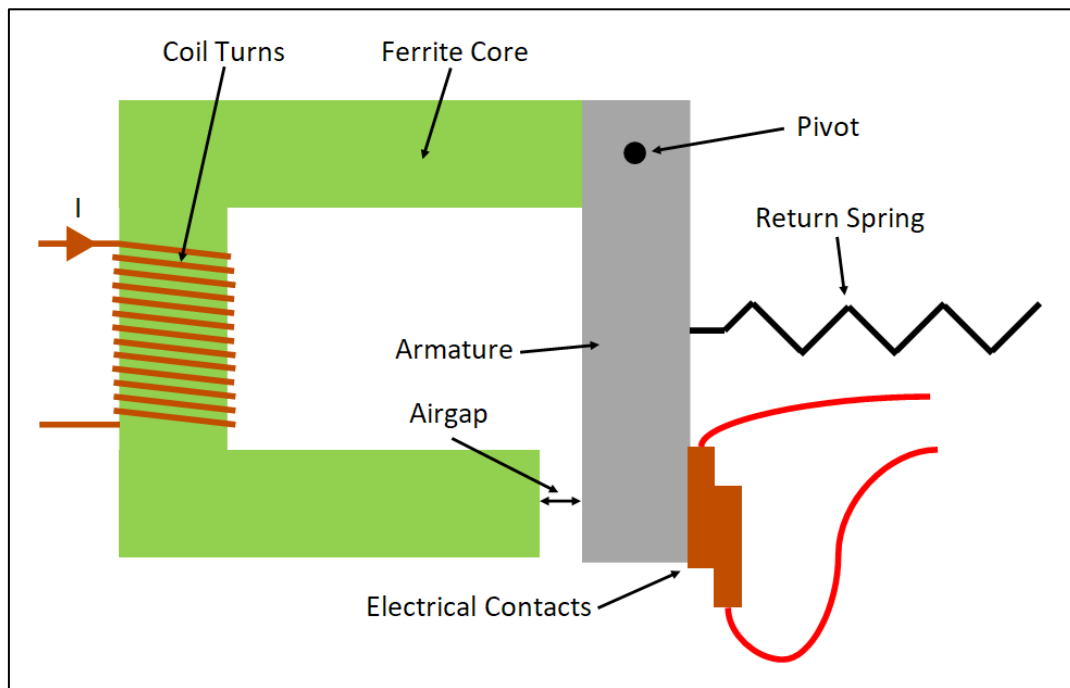

Figure 3.1: Simple Electromagnetic Relay Structure
**Figure 3.1** shows a typical simple Electromagnetic Relay structure. When no current is flowing through the coil no magnetic field is generated around the coil; thus, the only force exerted on the armature is that from the spring. This causes the armature to be in its returned position, depending on the relay contacts this could mean circuit closed or open. When the coil is energised its magnetic field actively attracts the armature through reduction of the airgap. Consequently, the armature opens or closes the electrical circuit respectively.